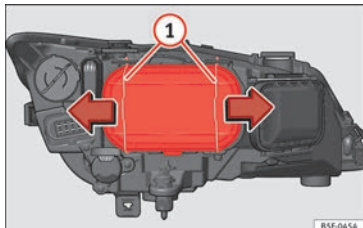

Fig. 102 Dipped beam headlights.
- Move the loops »» Fig. 102 ① in the direction of the arrow and remove the cover.